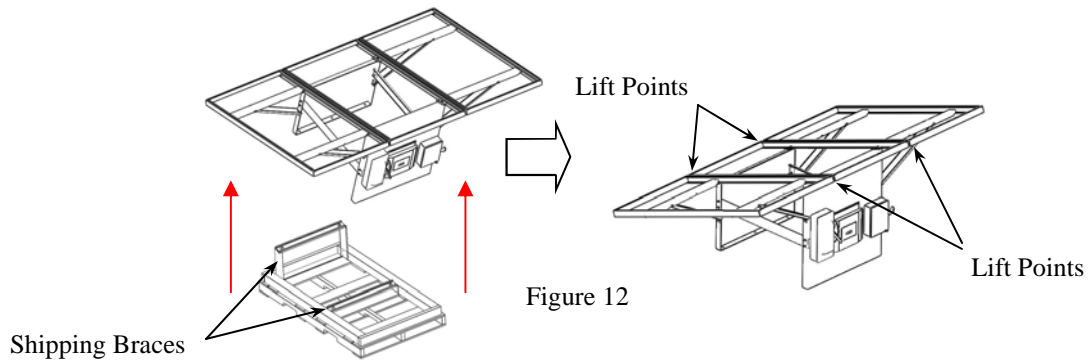

Figure 12
12. With one person at each face, lift the unit by the Center PV Module frame at the lift points indicated (figure 12)